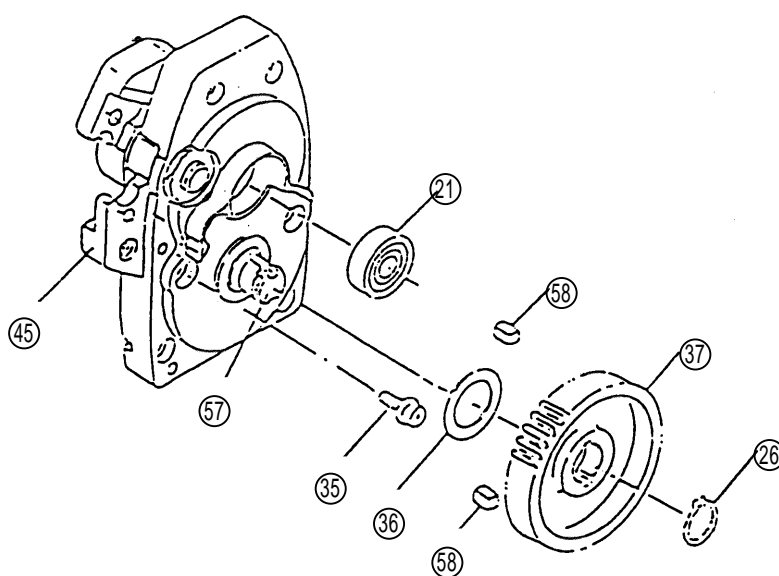
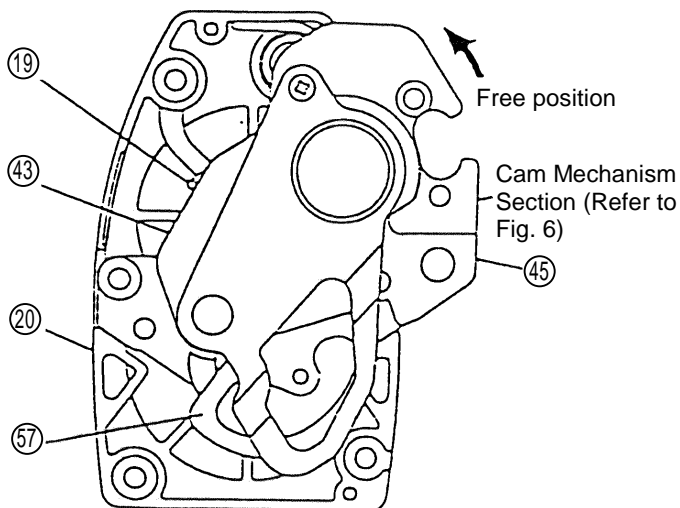

Fig. 5
Fig. 6
(c) Remove the Final Gear (37). (See Fig. 5)
(d) Remove the Cam Mechanism Section. (See Fig. 5 and Fig. 6)